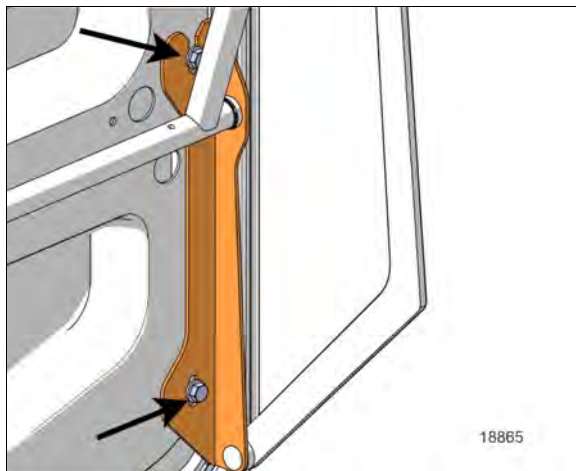

FIGURE 113: DOOR MOUNTING SCREWS
7. All adjustments are to be made with door closed and with the mounting screws shown in Figure 113.